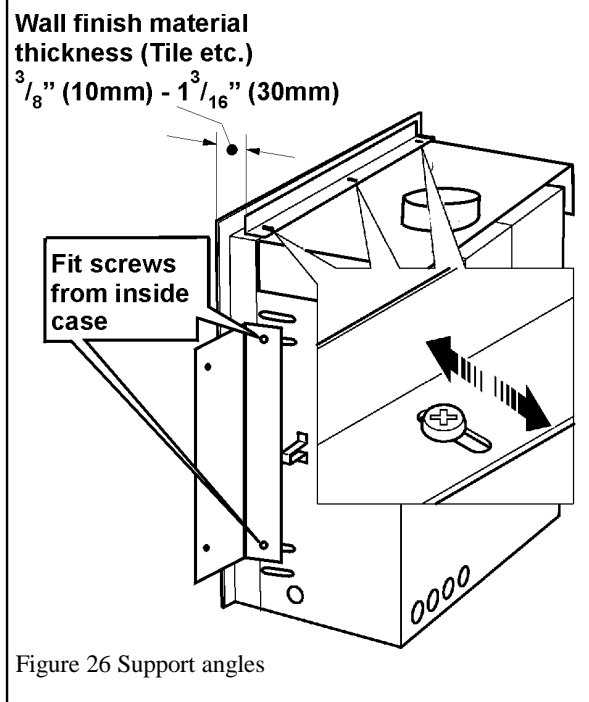

Figure 26 Support angles
6. Bend the two top rear stand-offs and fit to the heat shield with three screws each – see figure 26.
See figure 26